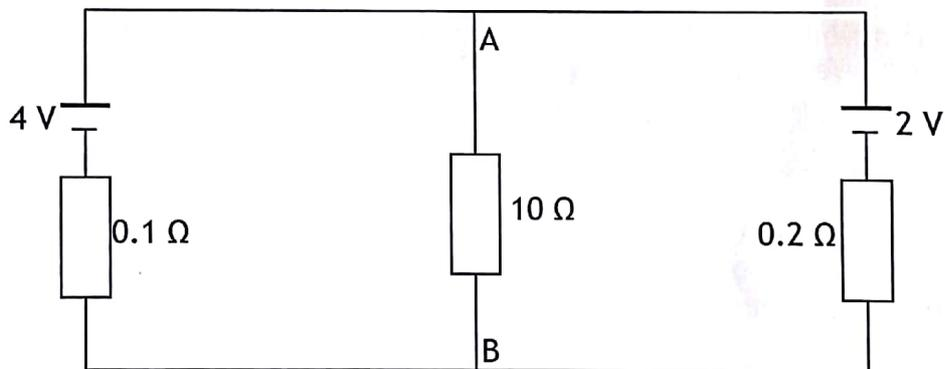

Fig Q1
1. (a) For the circuit shown in Fig Q1, determine EACH of the following:
- (i) the current through the $10\ \Omega$ resistor; (8)
- (ii) the p.d. across each resistor. (3)